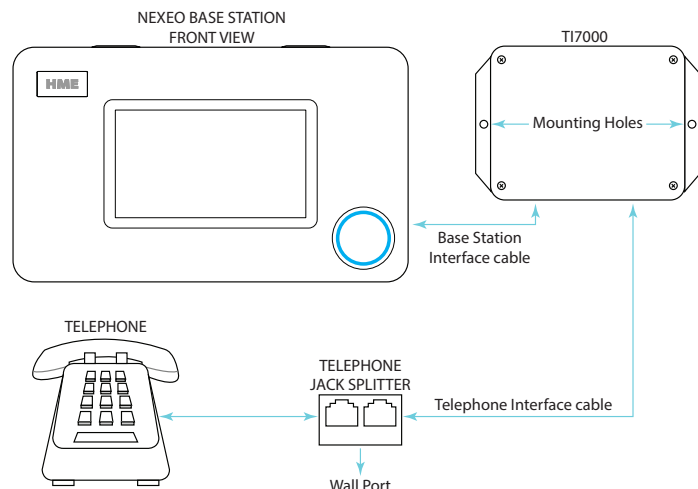

Fig. 12.1
1. Hold the TI7000 against the wall and mark the wall through the two mounting holes on each end of the unit (see Fig. 12.1).
2. Plug the telephone into one of the ports on the telephone jack splitter, see Fig 12.1.
3. Plug one end of the included telephone interface into the other port on the telephone jack splitter and connect the other end to the RJ11 port on the TI7000. See Fig 12.1 and 2.